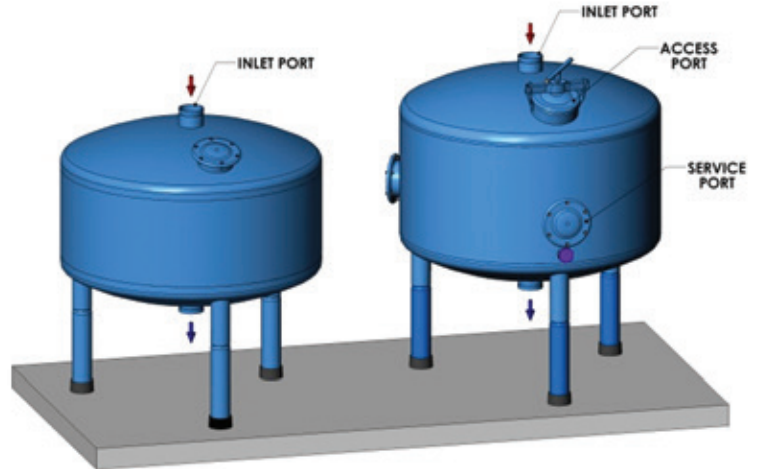

FIGURE 1
- Pour a concrete level slab 4" thick with 6 x 6" footings. (Figure 1)
- Align the filters on the pad with the top cover port of each filter facing the same direction. (See Figure 1)